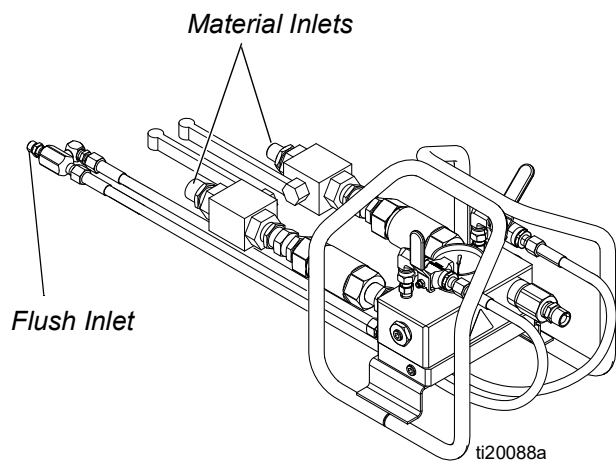

FIG. 23
2. **Systems 262869, 262898, and 262943:** Connect the 3/4 in. A and 1/2 in. B hoses to the material inlet ball valves on the mix manifold. See FIG. 23.
Systems 24W626 and 262945: Change the B side inlet nipple and connect the 3/4 in. A and 3/4 in. B hoses to the material inlet ball valves on the mix manifold. Color code material hoses (green and blue) with respective color identification on mix manifold. See FIG. 23.
4. Route the purple flush hoses from the manifold underneath the manifold carriage and connect to the 1/4 in. flush hose in the hose bundle. See FIG. 23.